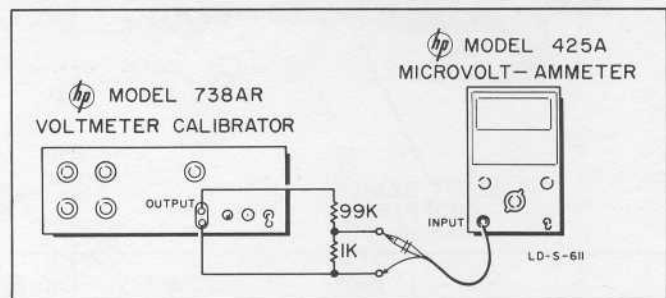

Figure 5-9. Voltmeter Calibration Test Setup (100 MICROVOLTS through 10 MICROVOLTS ranges)
j. Connect Model 425A to voltmeter calibrator using the 100:1 divider as shown in figure 5-9.